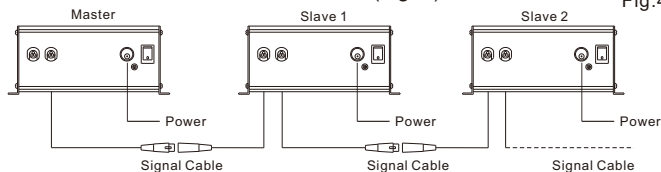

Fig.4
(6) The connection of Master/Slave Control Mode (Fig. 4):